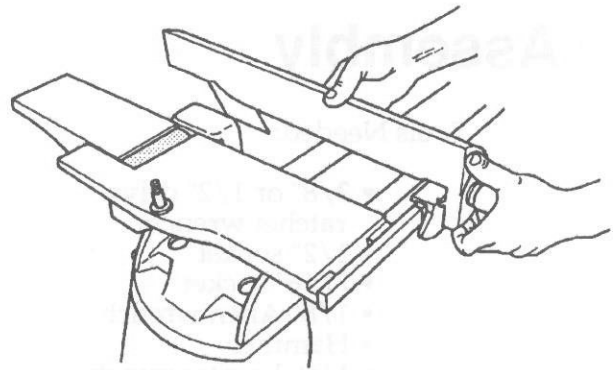
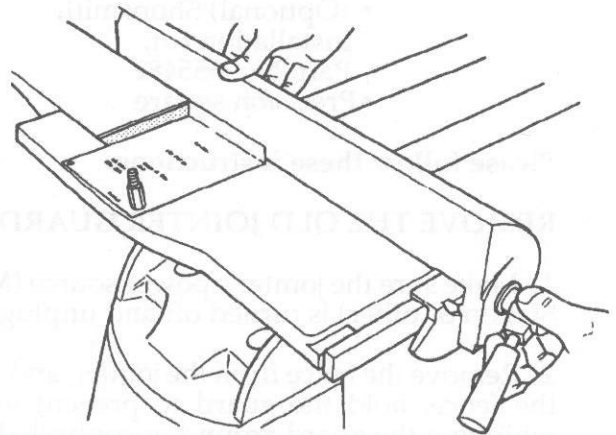

Fig. 5
Fig. 6
9. Re-install the fence on the jointer, as shown in Fig. 5.
10. Fold the template (17) along the serrated line.
11. Place the template on the jointer table and insert the guard stud through the template hole. See Fig. 6.
12. Locate the fence so it **touches the fold** in the template. See Fig. 6. This will ensure that the folded template flap is square with the jointer base. **Important:** Make sure the fence contacts the entire width of the template. This is critical for exactly placing the indentation in Step 13.